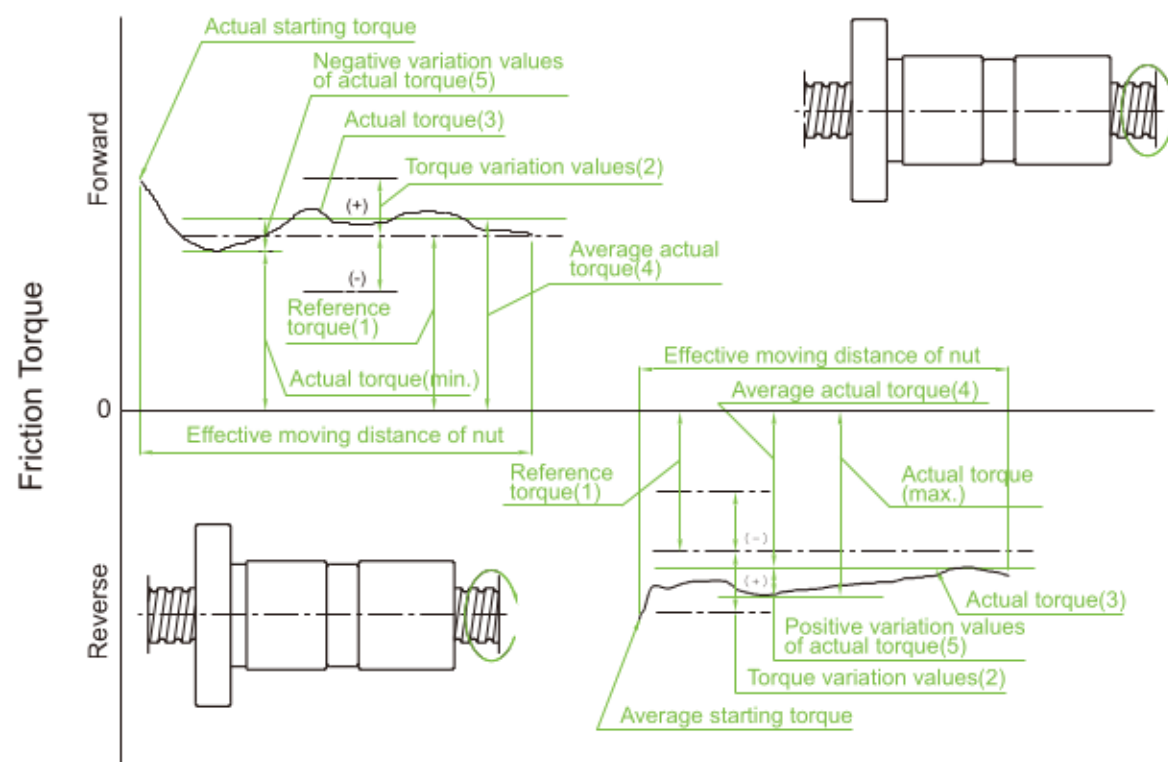

Fig 3.3.3 Descriptions of preload torque
As figure 3.3.3 shown in below, it specified all the type of preload torque generated by rotating a preloaded ball screw.
The targeted preload dynamic torque Fig 3.3.3-(1)
The variation values of the targeted preload torque variation rates are specified generally based on JIS standards as indicated in Fig 3.3.3.